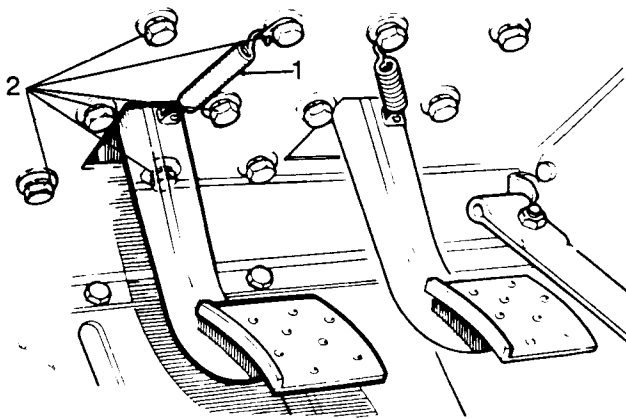

Fig H3.10
- (3) Refer to Fig H3.10. Disconnect the return spring (1) from the pedal.
- (4) From inside the cab remove the six fixing bolts (2) securing the clutch pedal bracket.